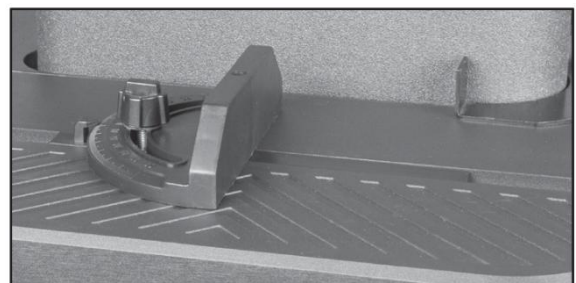

Figure 16: The Miter Gauge.
The worktable on the BBSDOSS can tilt from 0 to 45 degrees. The curved Table Adjustment Support has detents at 0, 15, 22.5, 30 and 45 degrees. This allows you to sand or add bevels to your work. FIG. 16. To tilt the worktable:
- 1- Loosen the 2 large side Knobs, Fig. 16, A, that secure the curved table brackets (B) in position.
- 2- Push down the Spring Block that is under the right support, Fig. 16, B, with the angle detents. Fig. 16